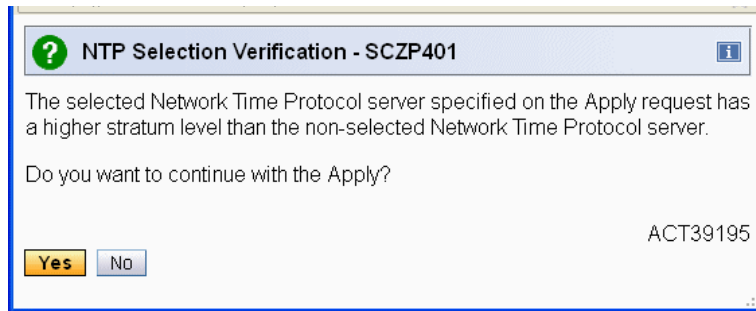

Figure 1-35 Message ACT39195 - Selected NTP has higher Stratum level
- If the selected NTP server has a higher Stratum level than the non-selected NTP server, the message shown in Figure 1-35 displays. In this case, you might consider defining the nonselected NTP server as the selected one.